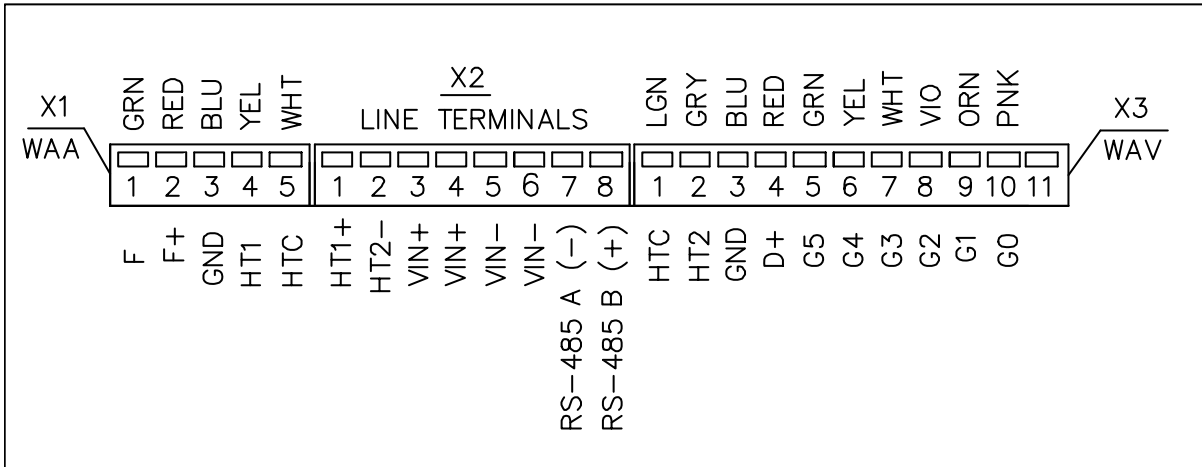
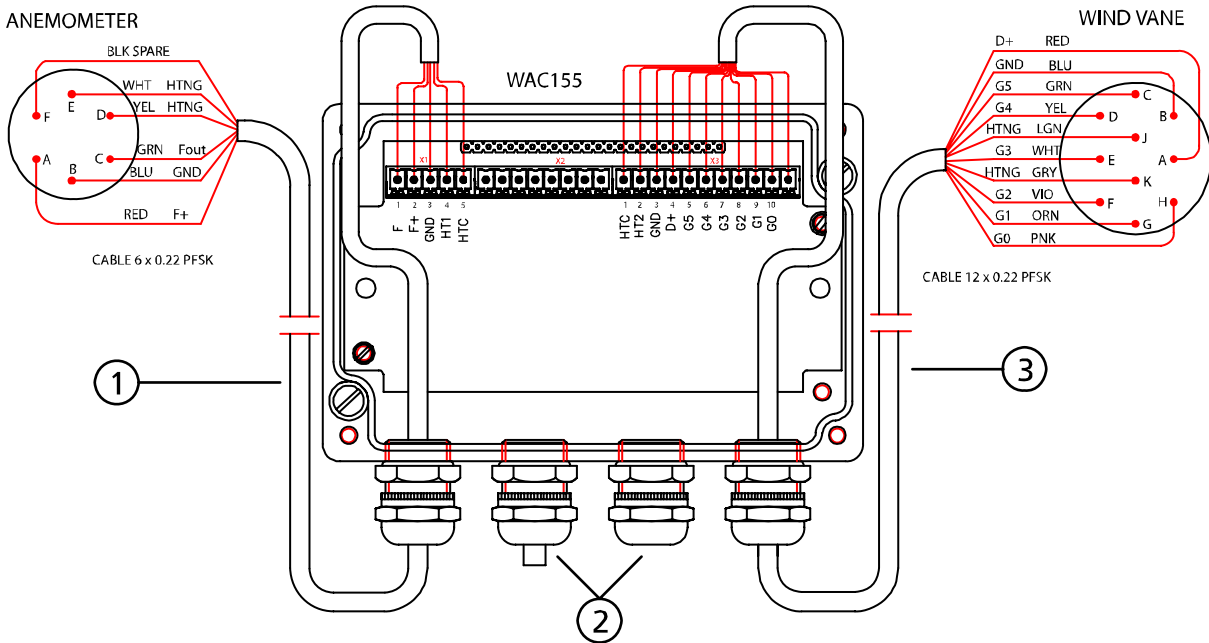
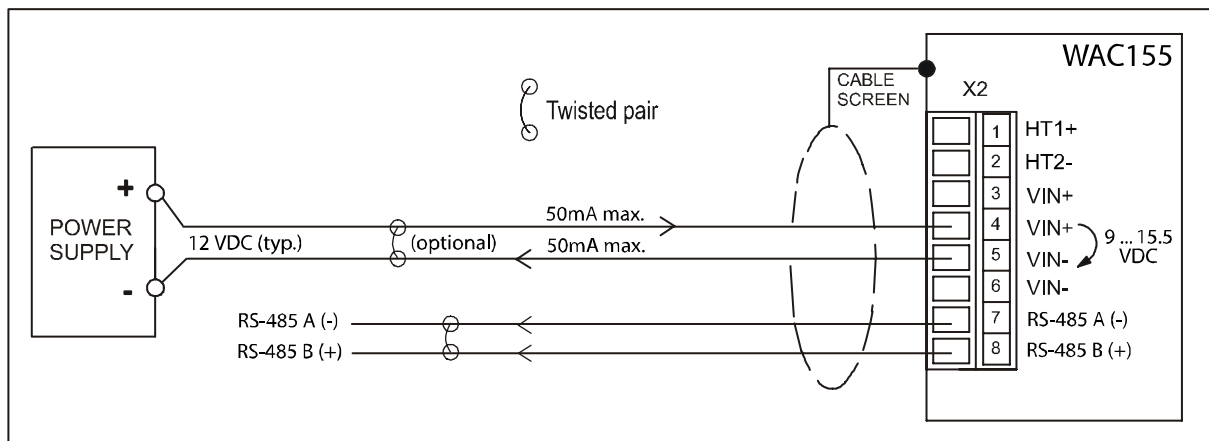

Figure 7 I/O Connectors
Figure 8 Wiring of the Sensors
Figure 9 Typical System with 12 VDC Power Supply
4. Connect the wires to the X2 removable screw terminal block according to Figure 8 on page 20 and Figure 9 on page 21. Tighten the output cable gland(s).
The WAC155 transmitter has three I/O connectors as shown in Figure 7 on page 18. For the location of the connectors and the routing of the cables through the cable glands, refer to Figure 8 on page 20.
The following numbers refer to Figure 7 on page 18.
The following numbers refer to Figure 8 on page 20.